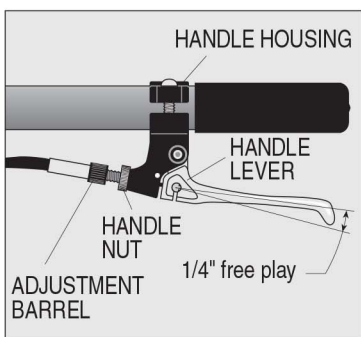

Figure 2
8. The HANDLE NUT should be tight against the HANDLE HOUSING, see Figure 2. The HANDLE LEVER should touch the GRIP when squeezed. If it does not touch, adjust as follows: